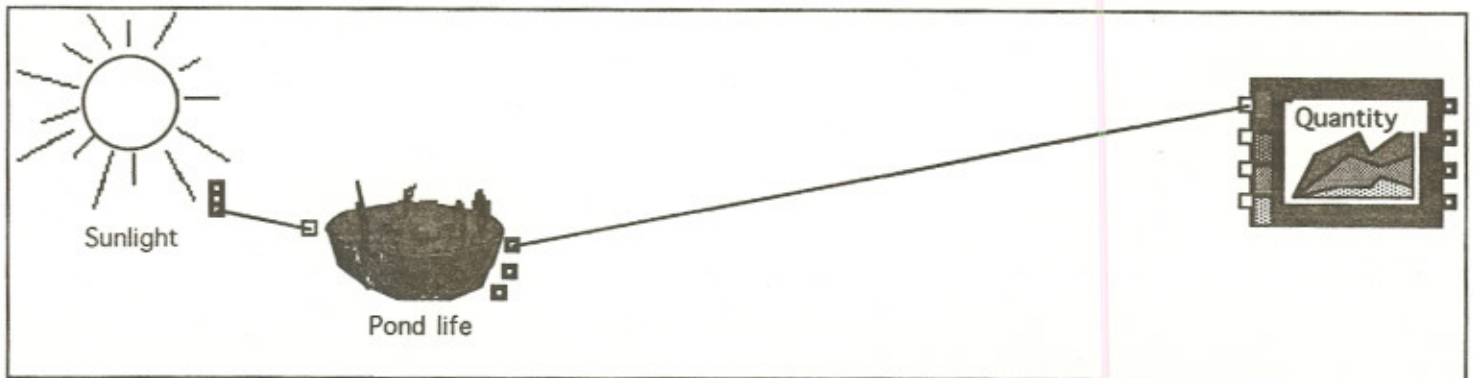

Figure 4. Pond ecosystem with connected icons of sunlight and pond life.
15. To make the program graph the changes in the weight of pond life, you need to connect the output of the Pond life block to the Plotter. Draw a line from an output box of the Pond life icon to the top open box of the plotter. Your screen will look like the picture in Figure 4.